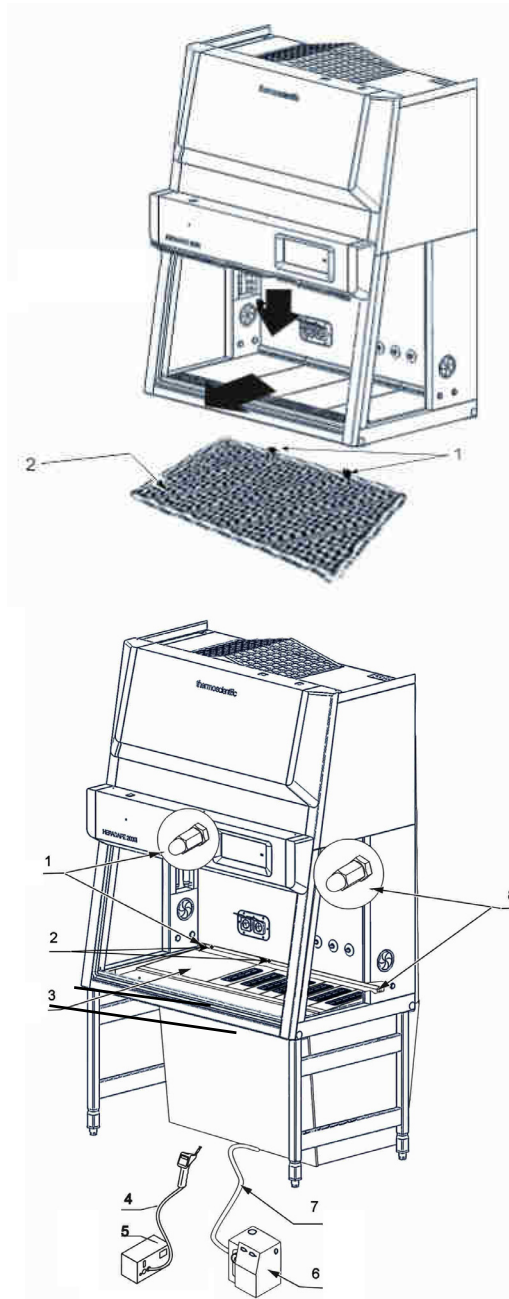

Figure 5. HEPA filter leakage test Down Flow Filter Maxisafe 2030i
1. **Figure 5:** Remove the perforated plate [2]: Remove the 2 lock screws at position [1], then tilt the plate forward and remove it from the work chamber.